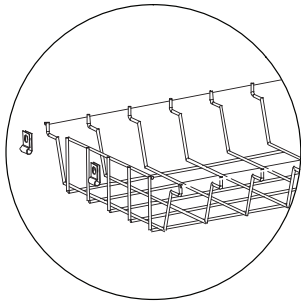

Figure 1
2. Position the metal clips on the wire guard (**Fig. 1**)